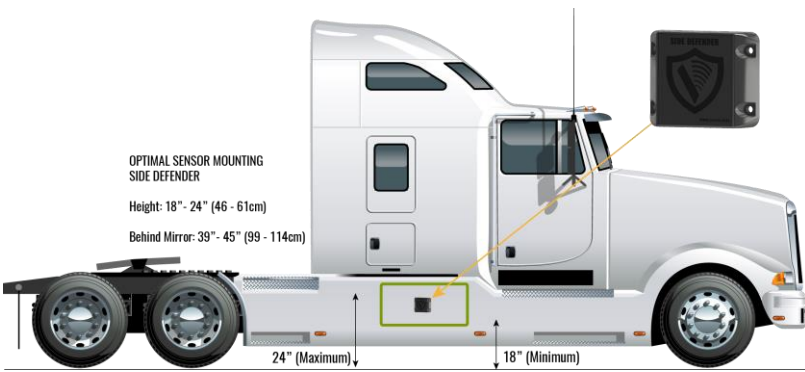

Figure 8. Sensor Position on Vehicle
1. Select the appropriate sensor mounting location in Figure 8.